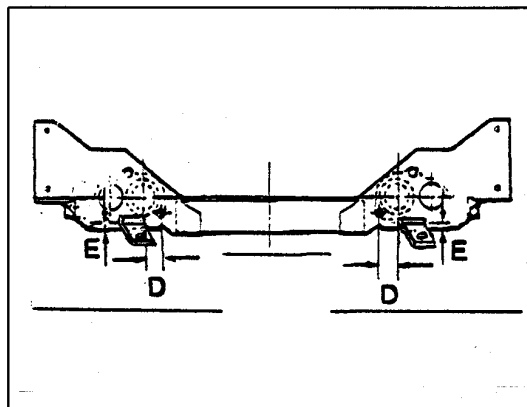

Figure 3
3. Install lower brackets onto front cross Member according to this measurements (refer figure 3)